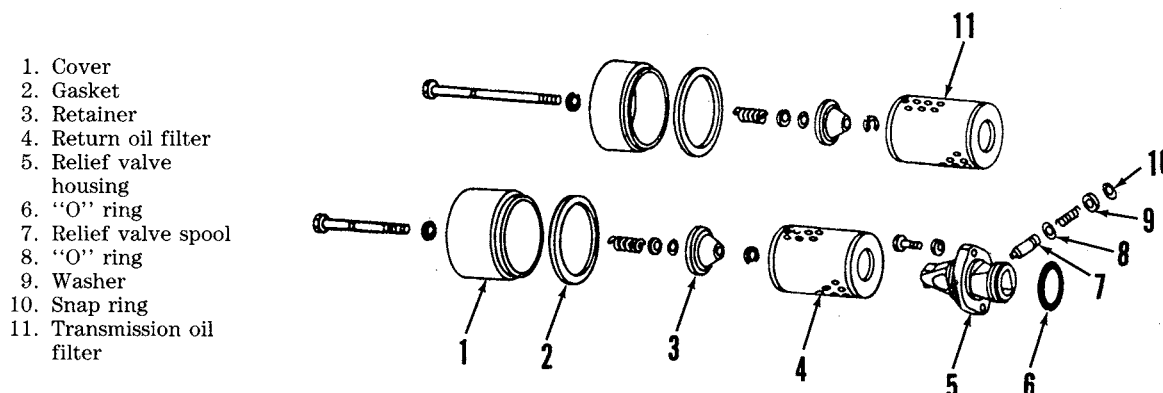

Fig. 234—Exploded view of return oil filter relief valve used on Power Shift models.
223. OIL FILTER RELIEF VALVE. The filter relief valve is located in the transmission housing behind the hydraulic (rear) oil filter. Drain oil from transmission before removing relief valve housing. To disassemble, press against washer (9—Fig. 234) to relieve spring pressure on snap ring (10). Remove snap ring and withdraw spring and valve (7).